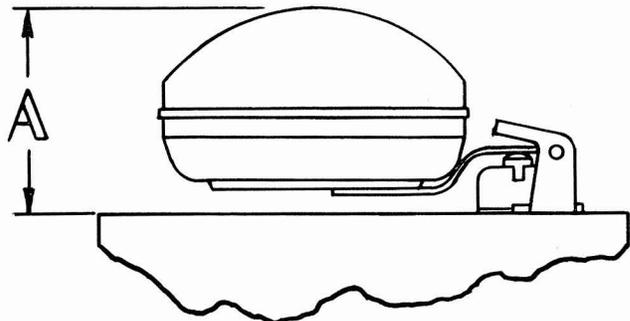

Figure 9
17. Install metering well (18) with accelerating jet (17) in the well channel of fuel bowl (28).
18. Install well vent jet (22), using Zenith tool C161-80 (or a 3/16" wrench).
19. Install idling jet (19), using fingers only.
20. To install pump refill check valve (12), place the valve body, head down, on a flat metal block; place the valve disc (11) in the valve body; place the cover casting (8) squarely over the valve, then strike the casting with a hammer (preferably a rawhide mallet), to drive the cover down over the valve.
21. Replace fuel valve seat (10) and gasket (9), using Zenith tool C161-85 (or a 1/2" screwdriver).
22. Place fuel valve needle (10) in the seat; hold the float assembly (14) in position and
23. Install float axle (15), using the fingers to push it through to the slot and the handle end of a screwdriver to force it through the slotted end of the float hinge bracket. The float axle should extend about the same distance on both sides of the bracket.
24. Hold the cover and float upside down, as shown in Figure 9, to observe relation of float to cover. To obtain correct fuel level, with normal pump pressure, consult float setting chart for Dimension A. Do not bend the float arm, as new and undamaged parts will come within the limits.